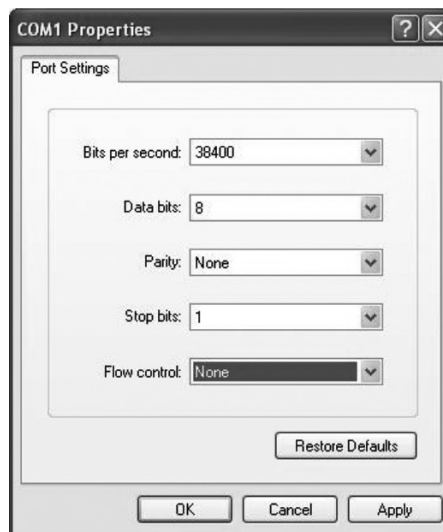

Figure 5-7 Port Settings
5. Configure the port selected in the step above as the following Figure 5-7 shows. Configure Bits per second as 38400, Data bits as 8, Parity as None, Stop bits as 1, Flow control as None, and then click OK.